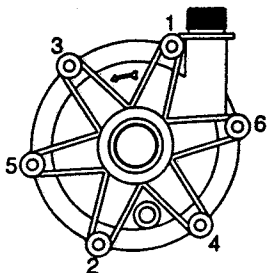

FIGURE 3
8. Align mounting holes and install 6 mounting screws and washer (Items 10 & 11) from hardware package. Hand tighten screws using pattern shown in Figure 3.
4. Align mounting holes and install 6 mounting screws and washers (Items 10 & 11) from hardware package. Hand tighten screws using pattern shown in Figure 3.